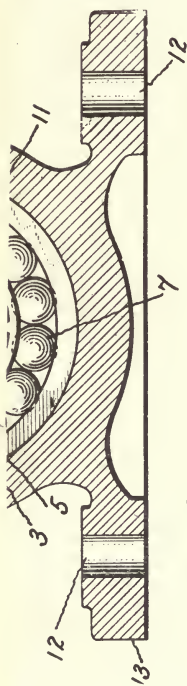

Fig. 3.
Sections.—Sometimes it is necessary to show the inner construction of an object and to show it clearly. Dotted lines are often used to show these invisible parts, but this often makes the drawing appear complicated, and makes it hard to read. To eliminate this confusion of lines an object is often represented as though it had been cut by a plane, all parts between this plane and the observer being considered as removed. This is called a section or a sectional view. Figs. 2 and 3 on Plate 5 are sectional views. If possible to show just where this cutting plane passes through the object, long broken lines are used. This is shown at X-X in Fig. 1, Plate 5, which shows where the section shown in Fig. 3 is taken.
It is not necessary to cross section bolts, shafts and cylindrical solids even though they are cut by the section. This is shown in Fig. 3 where the section is taken at X-X in Fig. 1, through centre of shaft (1), but the shaft is not shown cut. For representing different materials in section a standard chart is shown on Plate 6. Also a color chart, and the proper way to make fabrics is shown on the same plate.